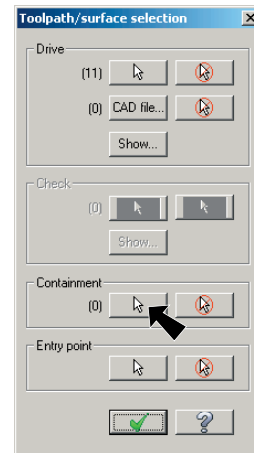

Fig. 39
Step 6. Click **Containment Select** button, Fig. 39.